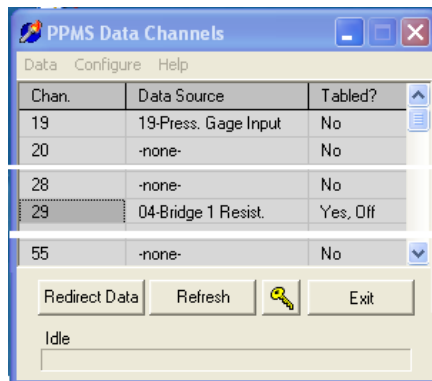

Figure 9. The PPMS Data Channels dialog with Channel 29 set up to use Bridge 1 as the data source
5. The application will be reflected in the **PPMS Data Channels** dialog—as shown in Figure 9, the **Data Source** for Channel 29 will change from "-none-" to "04-Bridge 1 Resist". Note that the **Tabled?** column now reads "Yes, Off" instead of "No."